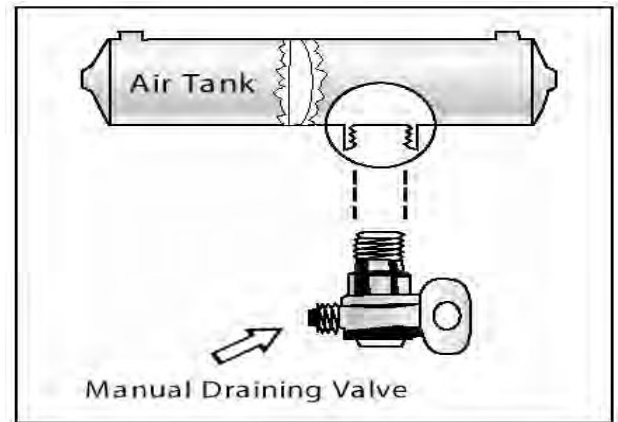

Figure 5.1
- **Manually operated**—by turning a quarter turn or by pulling a cable. You must drain the tanks yourself at the end of each day of driving. See Figure 5.1.